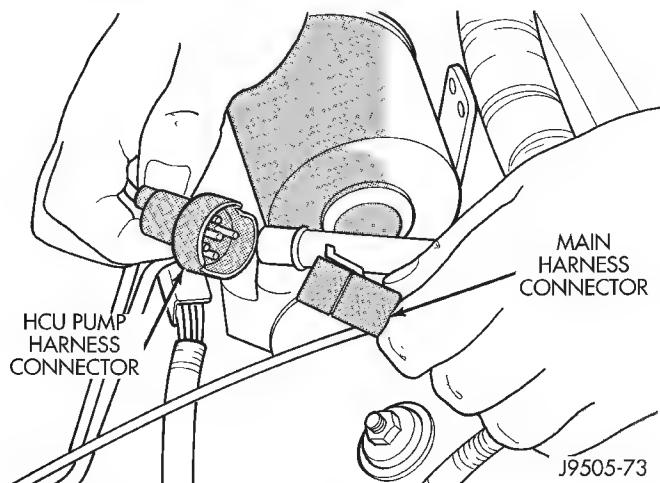

Fig. 14 Disconnecting HCU Pump Harness
(20) Disconnect HCU pump motor harness (Fig. 14).